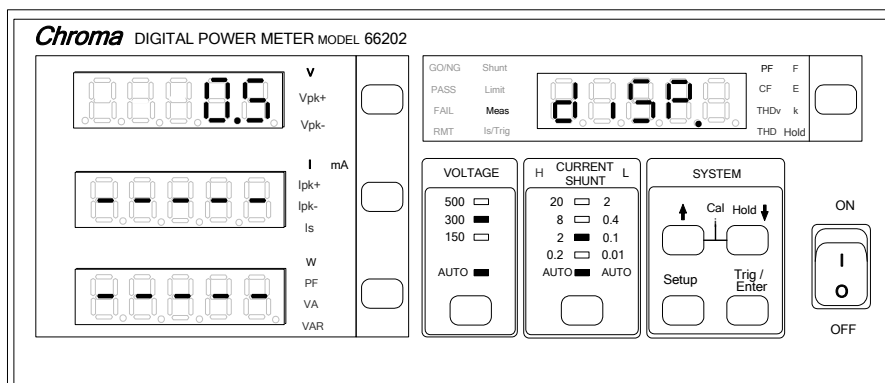

Figure 4-29 Setting DISP Option and Window Time
1. Press **Setup** to select Meas and the indicator of Meas is on. Figure 4-29 shows the initial setting screen.